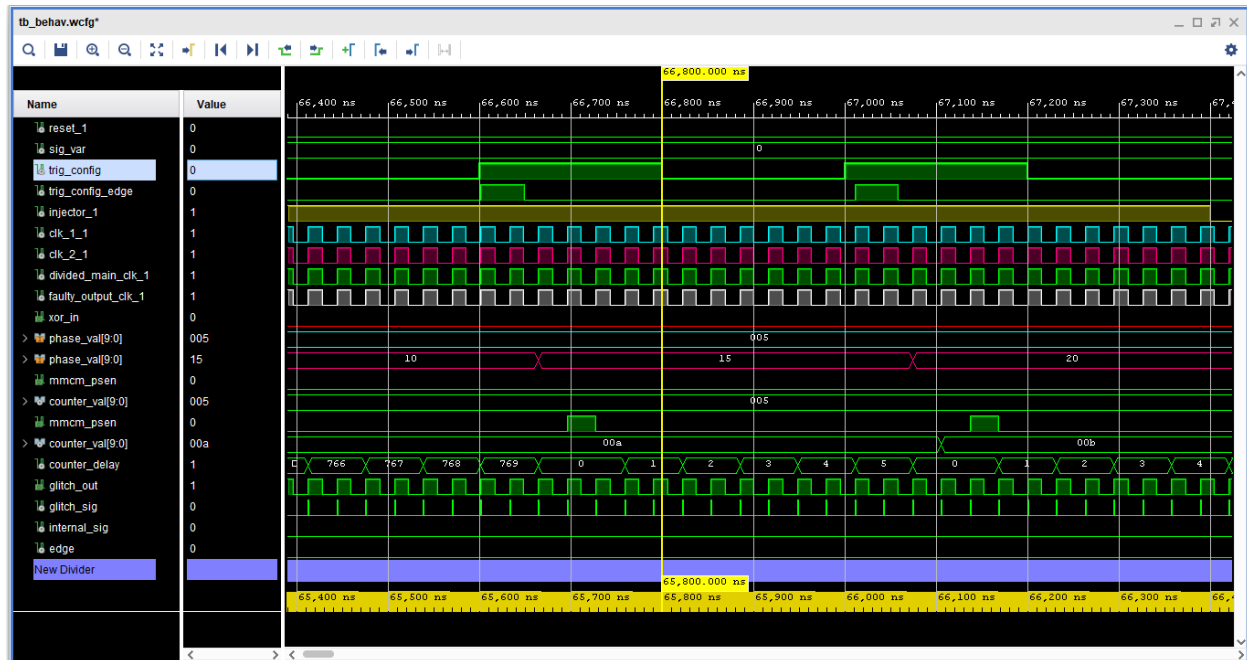

Figure. 8: Simulation results
According to Figure. 8:
- Each time a change in the `trig_config` is detected by `trig_config_edge` signal, the glitch configuration then changes, this means that phase2 is increased and because the width is obtained from the difference between phase 2 and phase1, so with the increase of phase2, the width of the glitch increases. In Figure. 8, the glitch width is initially 5 ($10-5=5$) and increases to 10 ($15-5=10$) with the first change in `trig_config` signal. As can be seen, when `trig_config=1`, the shift value of phase2 changes from 10 to 15, and as the difference between phase 1 and phase 2 increases ($15-5=10$), the glitch width increases.